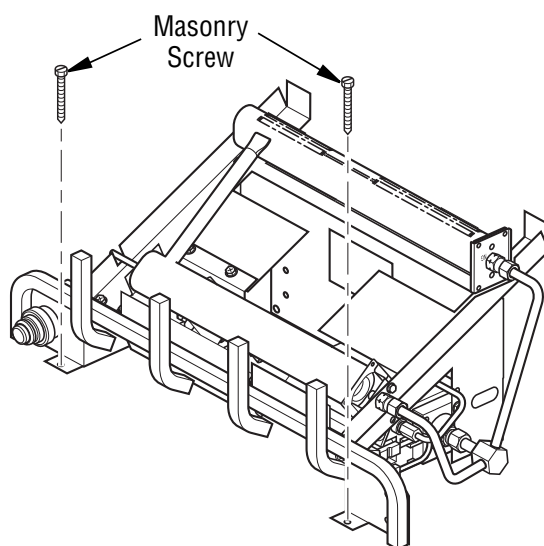

Figure 12 - Attaching Base to Fireplace Floor
3. Mark screw locations through holes in front panel of base (see **Figure 12**). If installing in a brick-bottom fireplace, mark screw locations in mortar joint of bricks.
6. Attach base, through holes in front panel of base, to fireplace floor using masonry screws provided in hardware package (see **Figure 12**).